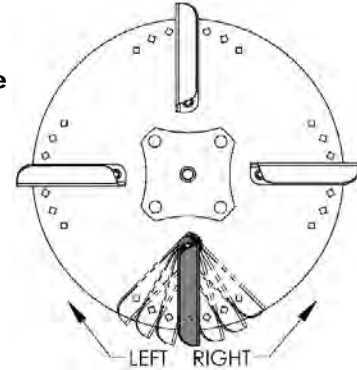

FIGURE 17.1
- The adjustment Fins will let you fine tune the spread pattern. Move the fins in the direction that you want more material to be applied. (e.g. If the material is spreading too heavy to the left then move the Fins to the right for the spread to become heavy on the right. See **FIGURE 17.1**.)